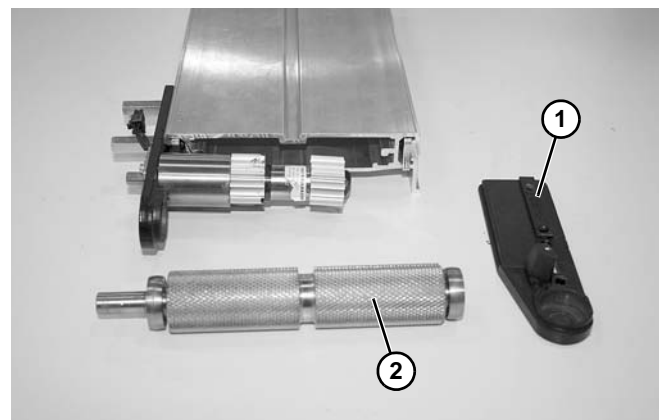

Figure 89
9. Remove head plate (Figure 89, item 1) from frame.
10. Remove and replace spindle (Figure 89, item 2).